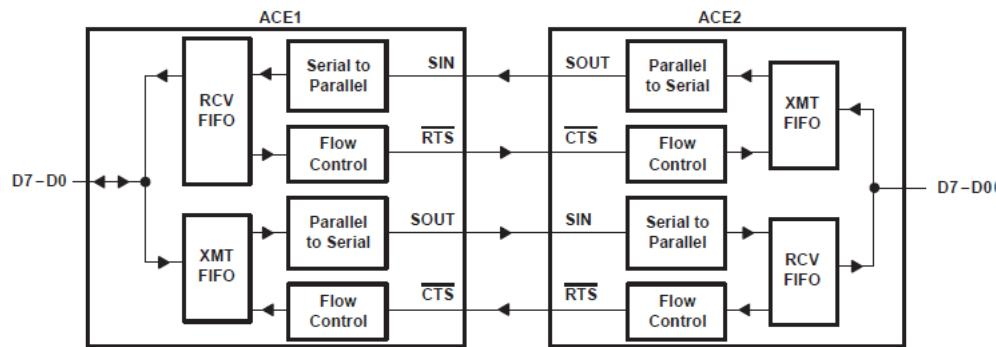

Figure 7-1. Autoflow Control (Auto-RTS and Auto-CTS) Example
7.1 Autoflow Control (see Figure 7-1)
7.2 Auto-RTS (see Figure 7-1)
7.3 Auto-CTS (see Figure 7-1)